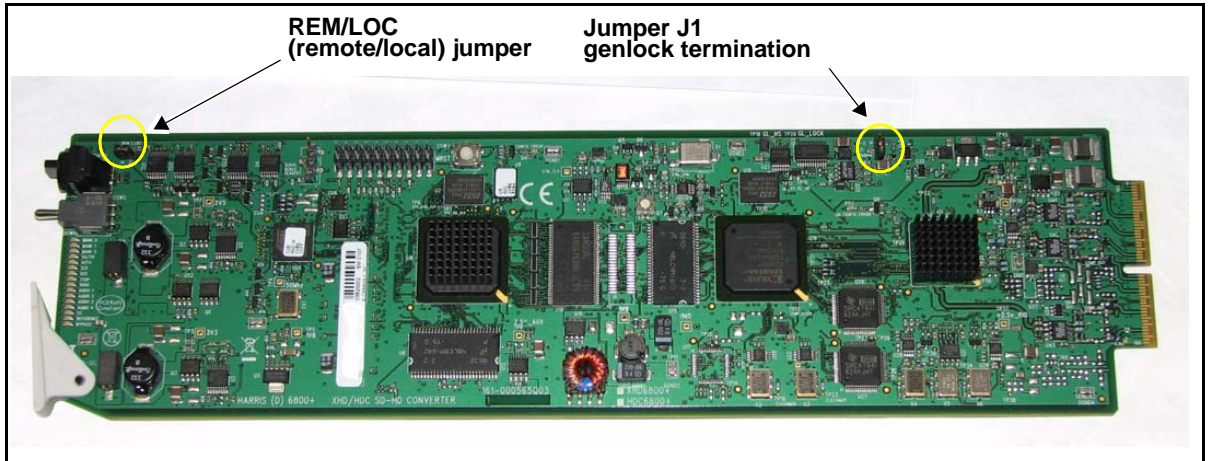

Figure 2-1. XHD6800+A Jumpers
Figure 2-1 shows the location of the jumpers.
1. Locate the **REM/LOC** control jumper on the module (beside the mode select rotary switch). Figure 2-1 shows the standard location of the **REM/LOC** jumper.
- Locate jumper **J1** on the module, near the back of the module. (Figure 2-1 on page 15 shows the location of the jumper.)